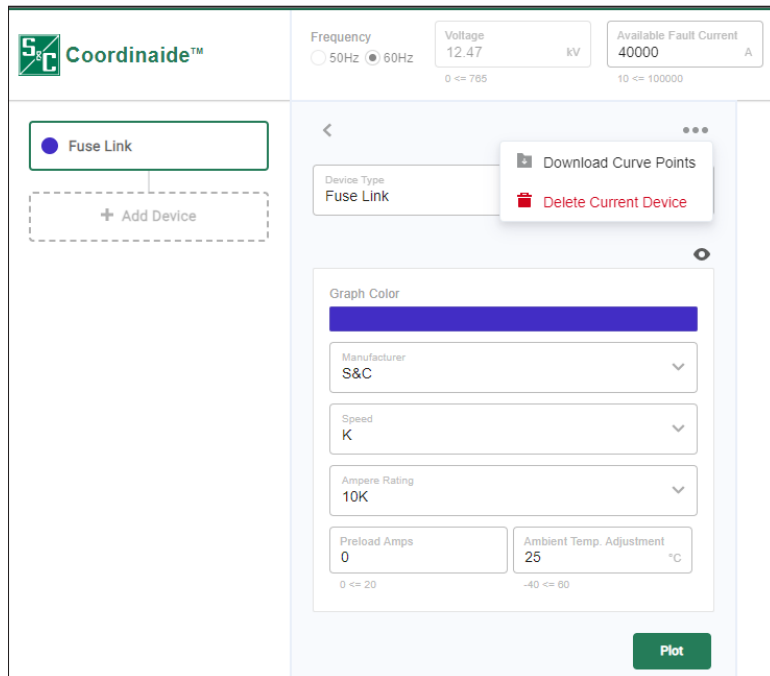

Figure 8. The Download Curve Points selection.
STEP 4. The plotted device TCC data points can be downloaded in .CSV format from the Device Parameters dialog box by clicking on the “...” button and then clicking on the **Download Curve Points** selection. See Figure 8.